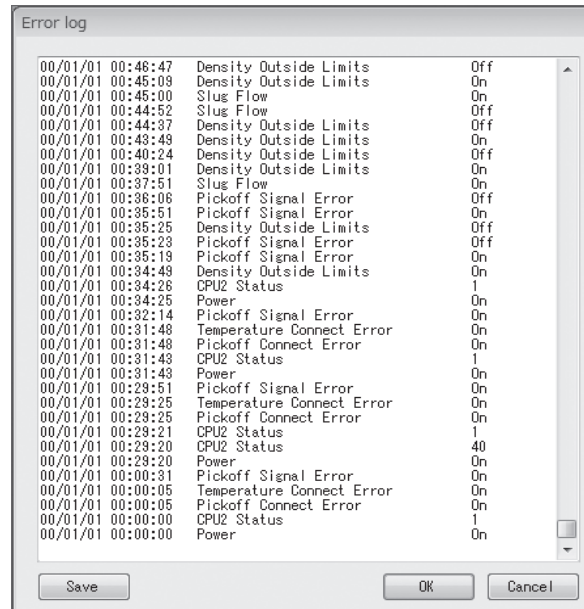

Fig.154
- ① Click on "Maintenance (M)" > "Maintenance transmitter" > "Error log" in the menu.
- ② The following window will be displayed (Fig. 154).